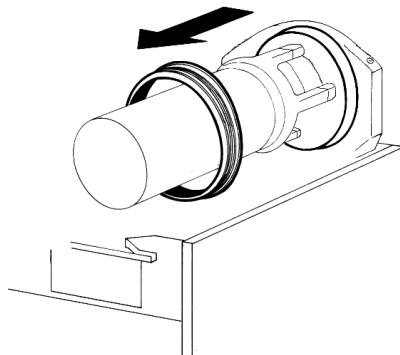

figure 8
- Remove the bowl gasket from its seat (see figure 8).